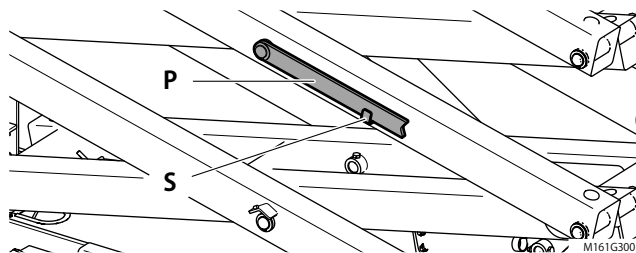

Fig. 1-11
- Stow the safety prop (Fig. 1-11, P) in its stowage position (Fig. 1-11, S) when it is not used.